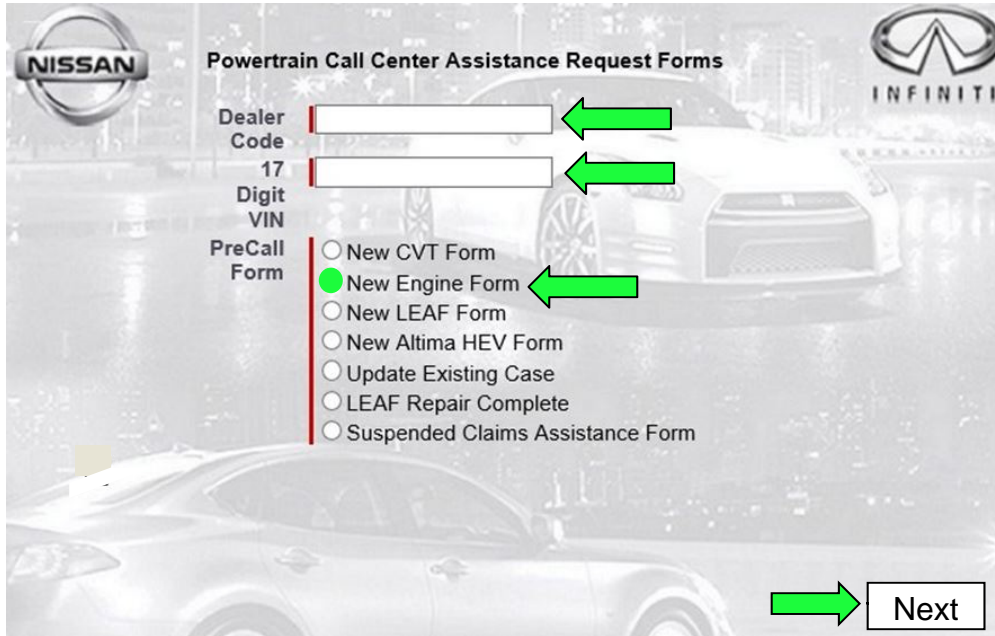

Figure 2
13. Complete the PCC Assistance Request Form in ASIST (Figure 2).
HINT: Figure 2 is shown with the idler pulley and the fan pulley installed, but these pulleys will remain removed during fan bracket installation.